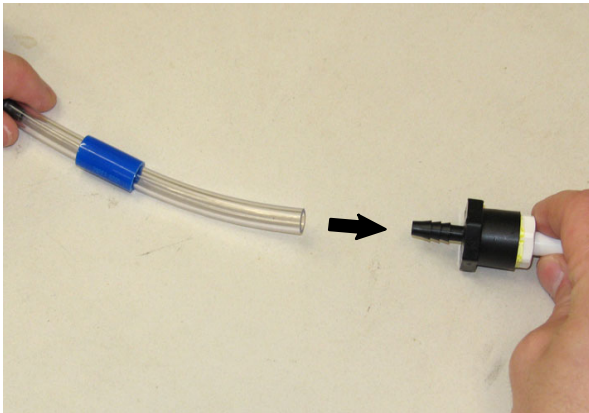

FIG. 27
26. Insert a straight fitting into the hose with the blue marking. (Fig. 27)